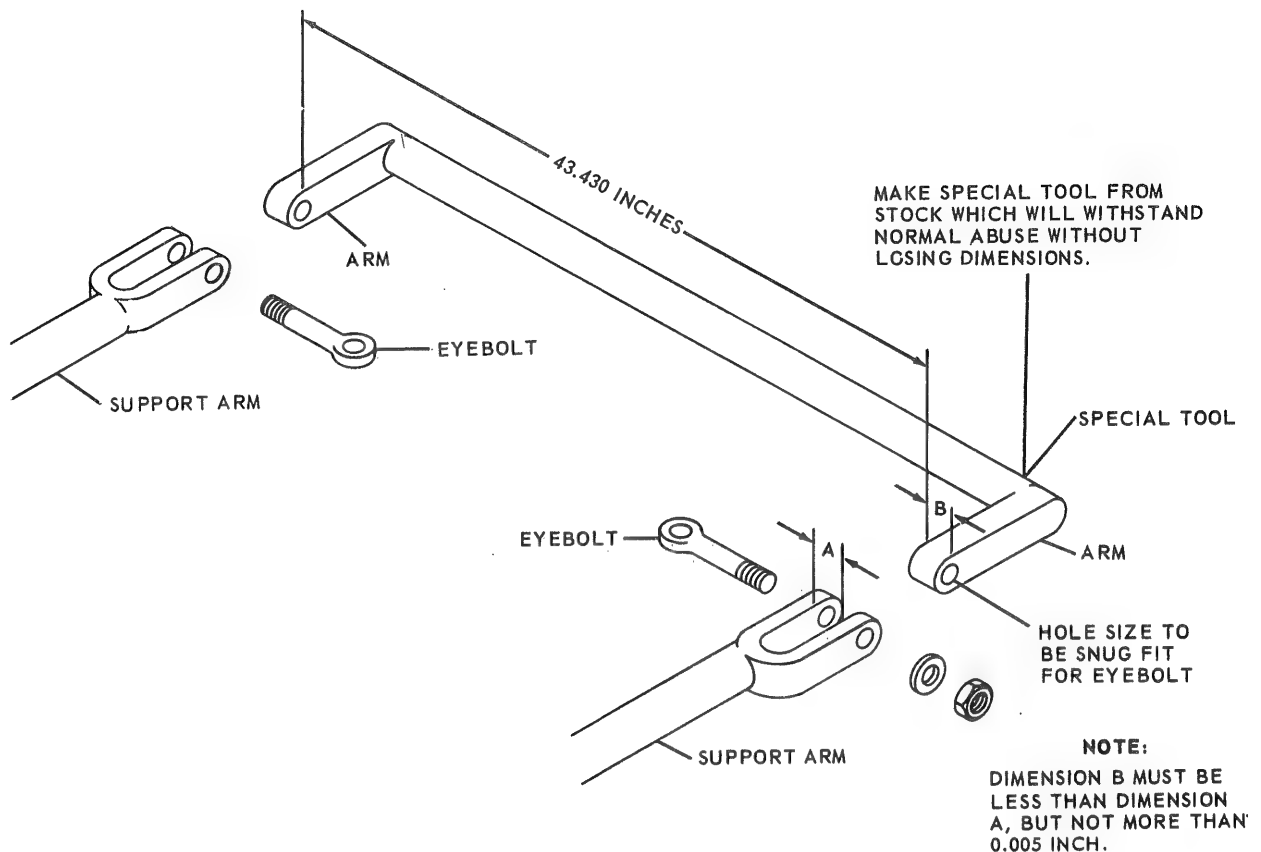

Figure 3-29. Manufacture and Application of Special Tool
s. With a pencil, scribe a line 1/2-inch from long outboard edge of plate (12) that extends through seal of cover (7). Position fork on inboard end of each sway brace (24) over plate (12). Tighten nuts of eyebolts (23) finger tight.
t. Hold forked end of each support arm (14 and 19) rigidly with locally manufactured special tool as indicated in figure 3-29.